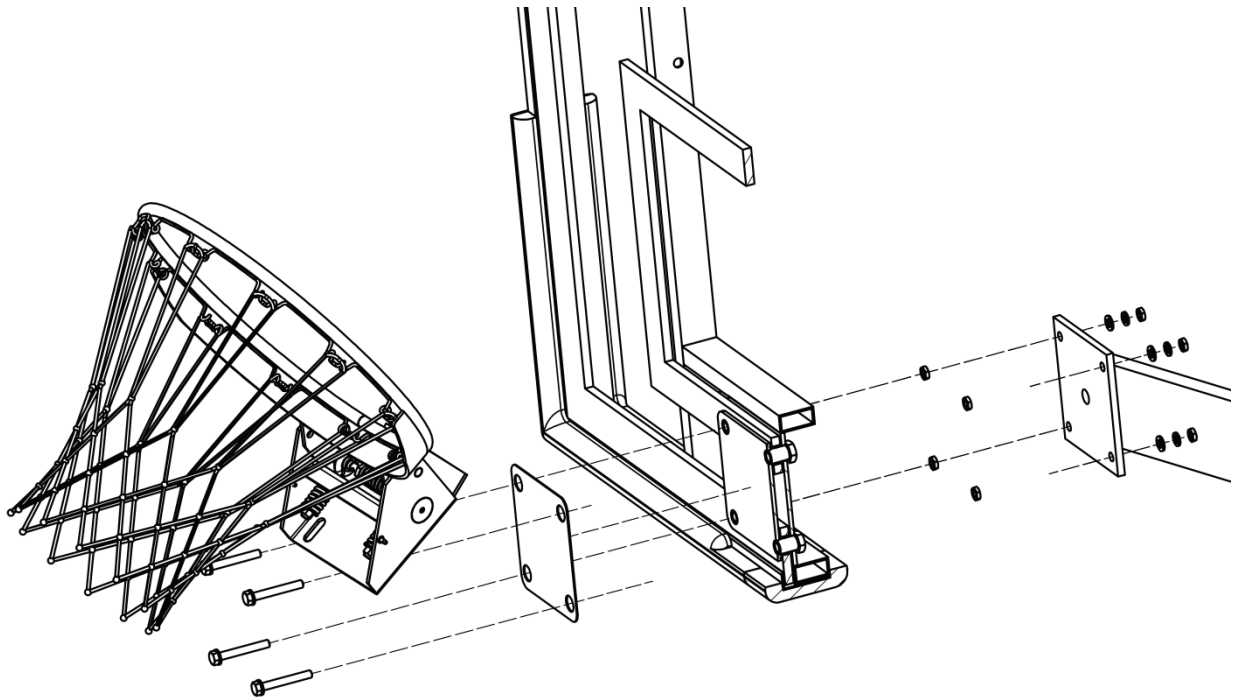

Figure 1 (Rectangular Backboard)
- Using the 4 sets of hex head bolt that fits the 5 inch by 5 inch hole pattern. Order of main part is rim, gasket, backboard and extension arm weldment, tie four items using the hex head bolt with washer thru rim and gasket. Into the backboard nut in the 5 inch by 5 inch hole pattern, use a hex nut to hold the rim and gasket to the backboard. Then lift the backboard on to the extension arm weldment 5 inch by 5 inch hole pattern. Finish this off with washers, lock washers and hex next, repeat till all four set of hardware is securely on (see figure 1&2).